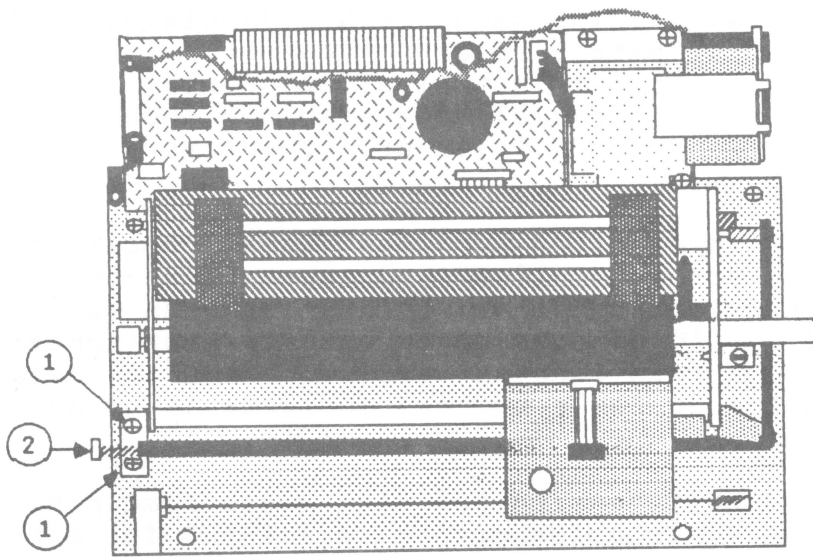

Figure 3
2. If you use a very thin 5.5 mm wrench, you may be able to reach the drive belt adjustment screw (Figure 3, #2) by removing the case cover only. Otherwise, remove the printer assembly from the case. (Refer to Section 2, **Take-Apart**, for instructions.)
- a) Loosen the two belt pulley screws (Figure 3, #1).
- b) Turn the drive belt adjustment screw (Figure 3, #2) clockwise to tighten, or counterclockwise to loosen the belt.